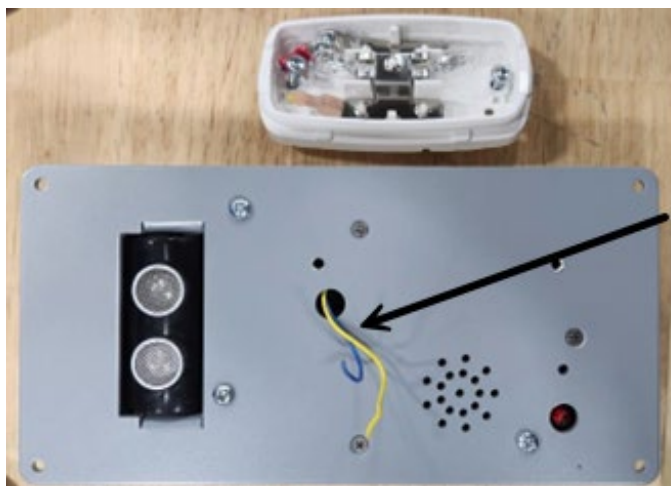

Figure 4: Wires are accessible and not under the faceplate
- Remove the light from the faceplate. Wires will slide out as light is removed. Ensure that previously cut wires always remain accessible. Discard removed light. Figure 4.